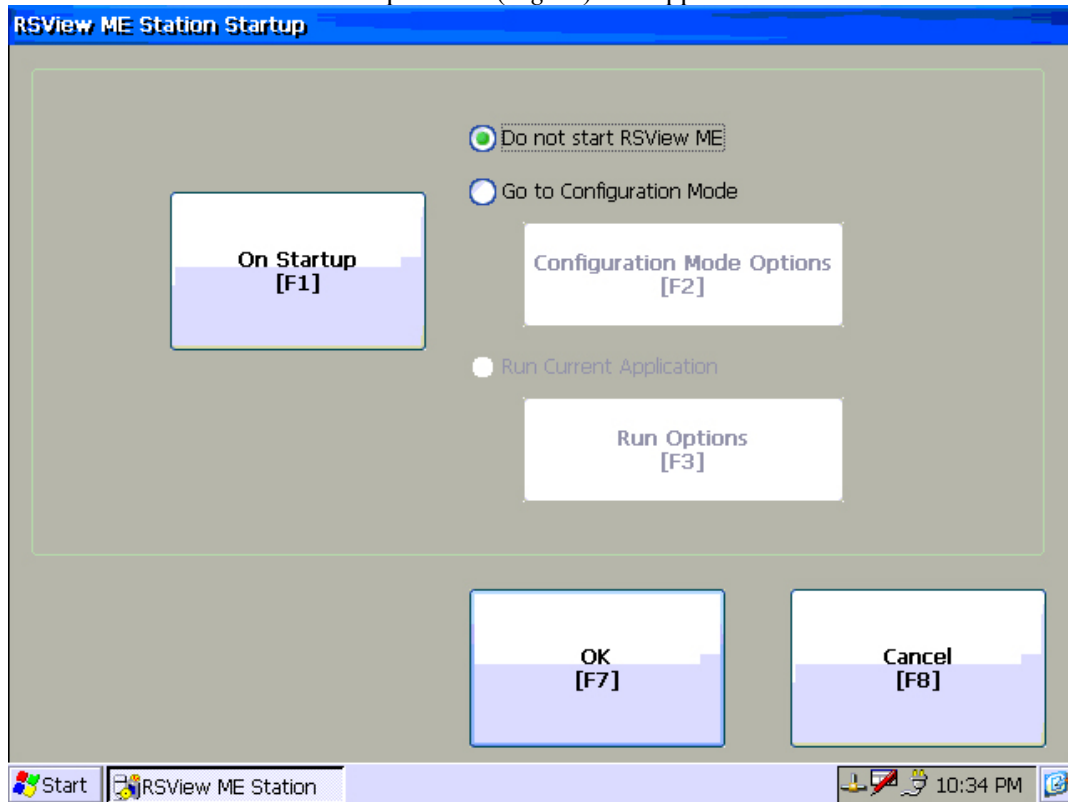

Fig 25
22. The RSView ME Station Startup Screen (*Fig 25*) will appear.